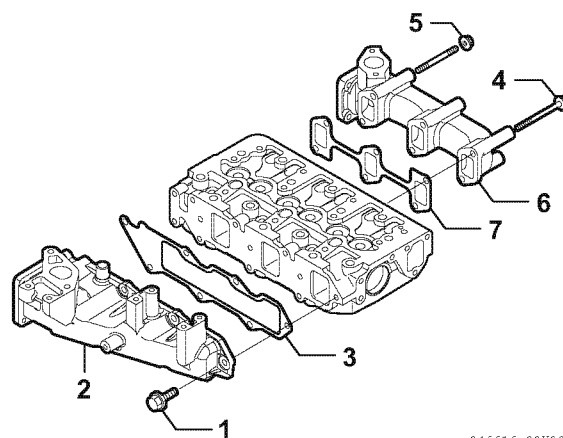

Figure 6-4
2. Remove the intake manifold bolts (**Figure 6-4, (1)**). Remove the intake manifold (**Figure 6-4, (2)**). Discard the intake manifold gasket (**Figure 6-4, (3)**).
3. Remove the exhaust manifold bolts (**Figure 6-4, (4)**) and nuts (**Figure 6-4, (5)**). Remove the exhaust manifold (**Figure 6-4, (6)**) and the exhaust manifold gasket (**Figure 6-4, (7)**).